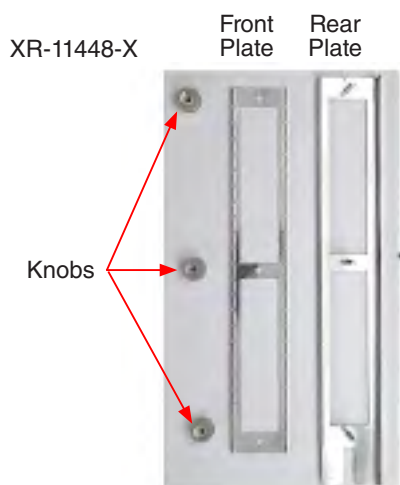
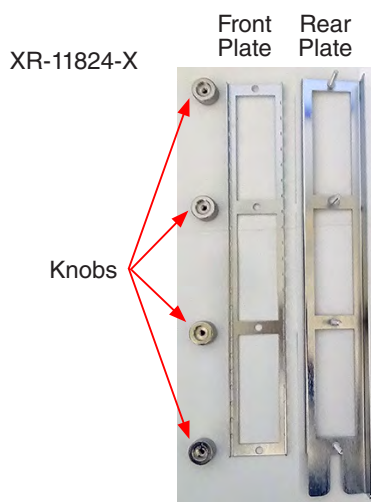

Figure 12.3c: Two window holder components.
Figure 12.3e: Three window holder components.
- Open back specimen holders are available with two windows (Figure 12.3c) and three windows (Figure 12.3e).